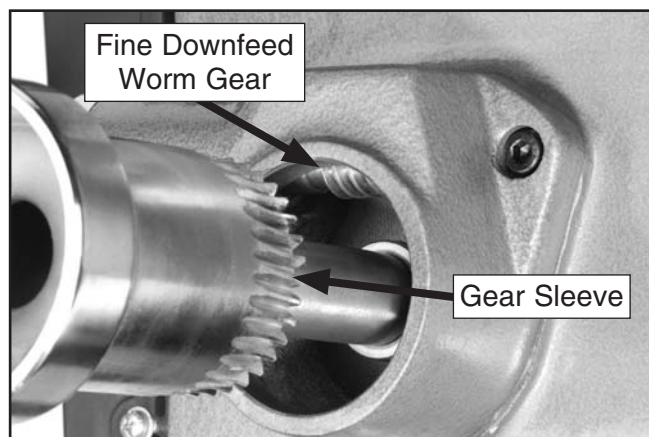

Figure 48. Downfeed gears.
3. Clean the built-up grime from the gear sleeve and the fine downfeed worm gear, then brush a thin coat of lubricant onto the teeth (see **Figure 48**).